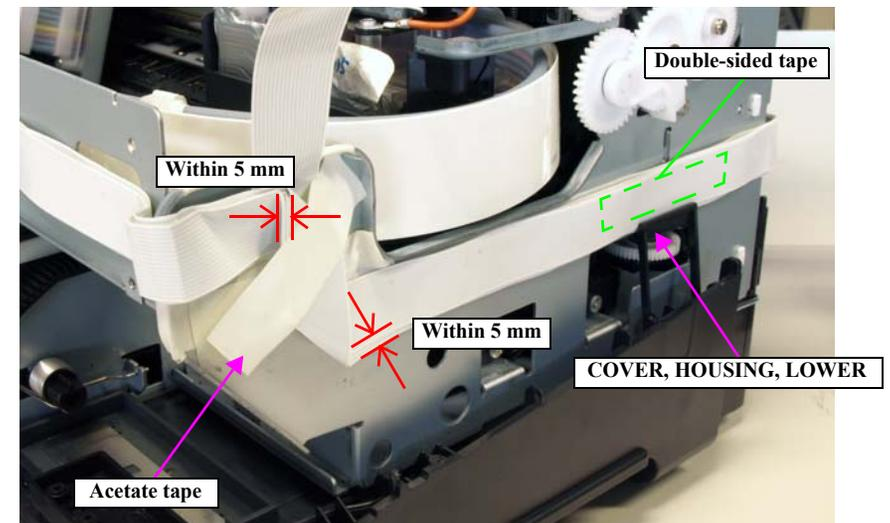

Figure 4-121. Routing the FFCs on the Right Side of the Main Frame
When folding back the FFCs with the following steps, make sure that the gap between FFCs are 5 mm or less. See *Figure 4-121*.
24. Fold back the FFCs on the position shown in *Figure 4-121*, and secure the FFCs with acetate tape.